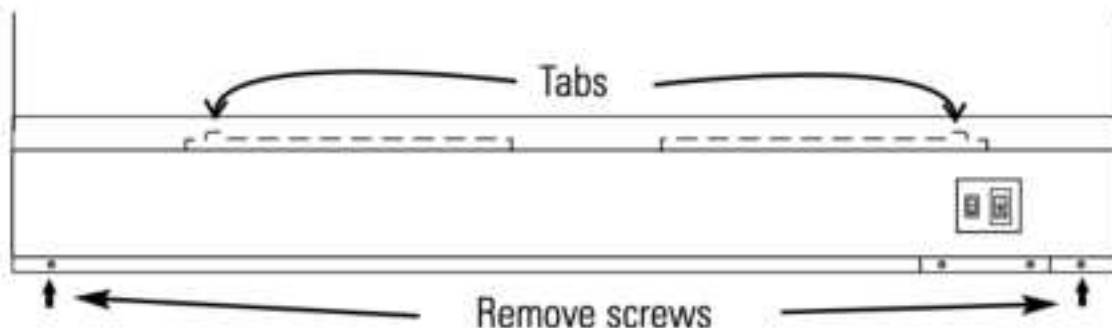

Figure 1 Front kick plate on the shaking incubator
8. Power down the MaxQ 8000 and remove the front kick plate (shown in Figure 1)